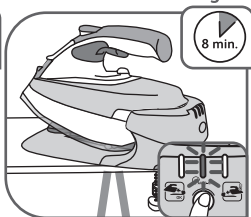

Fig. 16\*
- Flashing orange light (according to model): Auto-Off function activated (see the section "Auto-Off safety") – fig.16.
- To restart the iron, simply press the RESTART button on the display panel – fig.16.